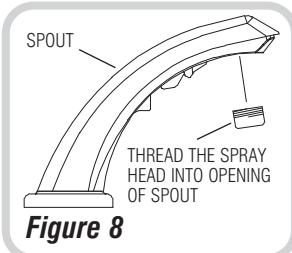

Figure 8
Step 5 — Install Spray Head (Figure 8)